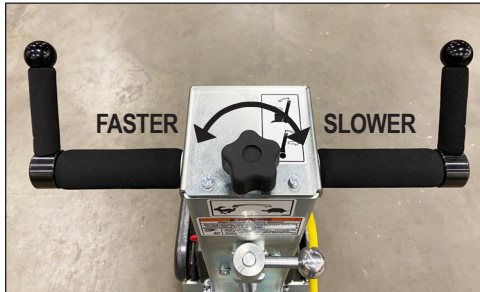

FIG. 9
### Speed Control (Figure 9)
3. Turn speed control knob to slowest position (Figure 9).